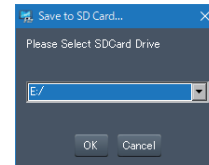

Fig. 2
- 4 Click [Export] and select the destination in the drive selection dialog, and then click [OK]. (Fig. 2)